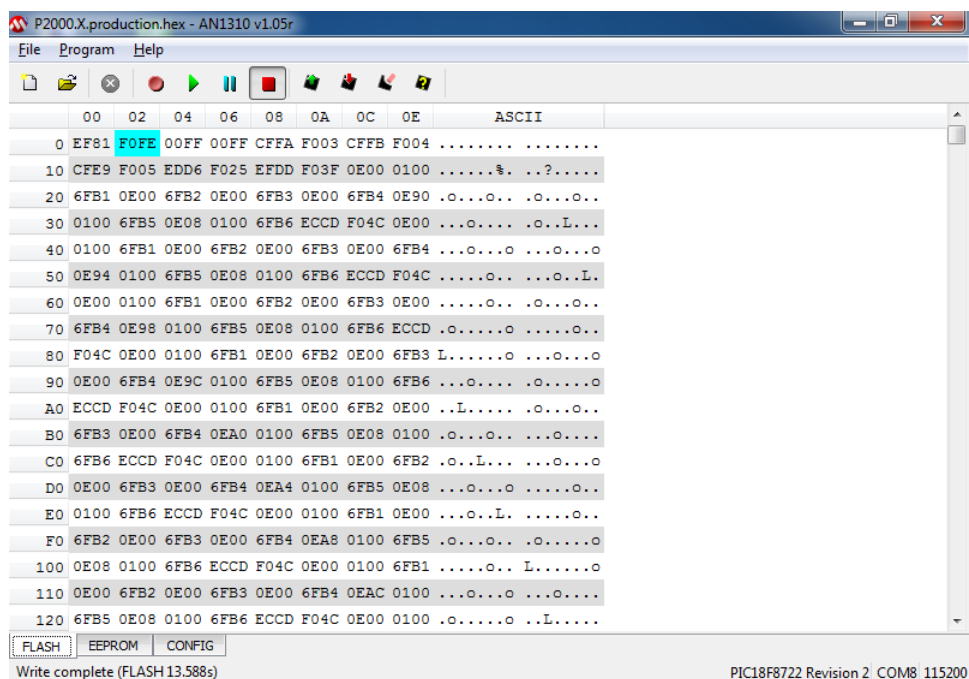

Figure 3.20
- The bootloader software will replace the old firmware in the SP-2000 board with the new one. The bottom status bar will indicate "Write complete" when this step is done (Figure 3.20).